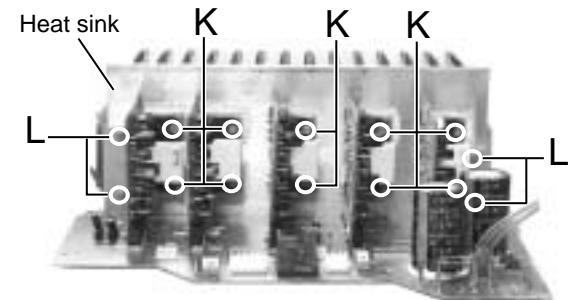

Fig.15
■Removing the Heat sink (See Fig.15 to 16)